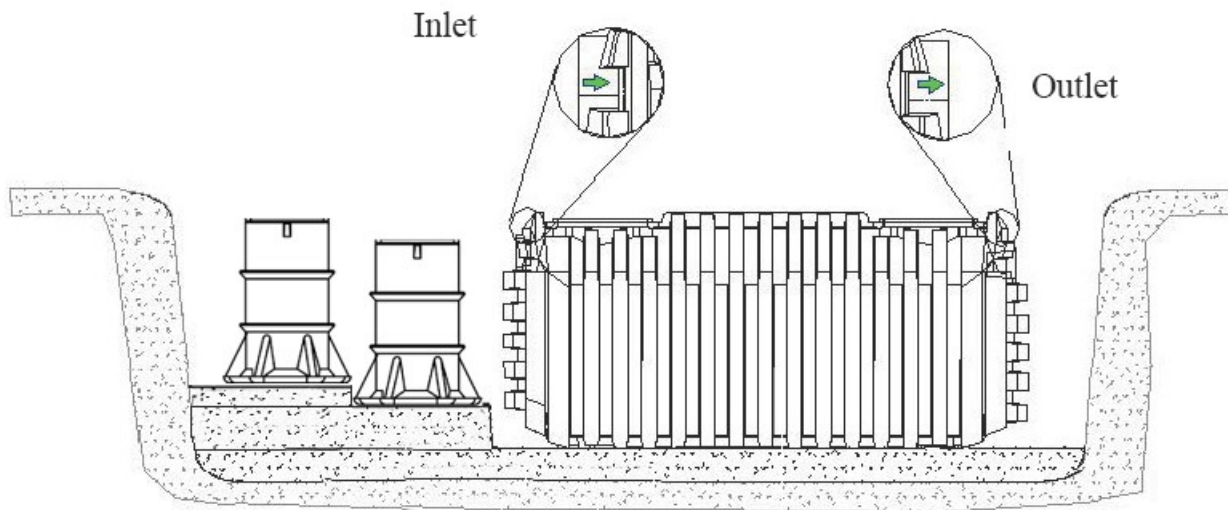

Figure 4
- Check the direction of flow marked on either end of tank. (Arrows near the inlet and outlet indicate the direction of the flow). **Fig. 4**